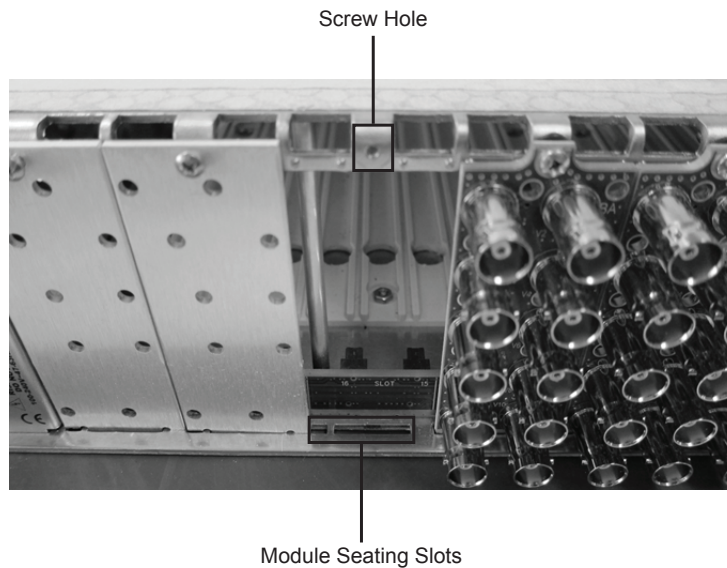

Figure 2.1 Rear Module Installation in an OG3-FR Series Frame (VDD-100 not shown)
3. Install the bottom of the Rear Module in the **Module Seating Slot** at the base of the frame’s back plane.(**Figure 2.1**)